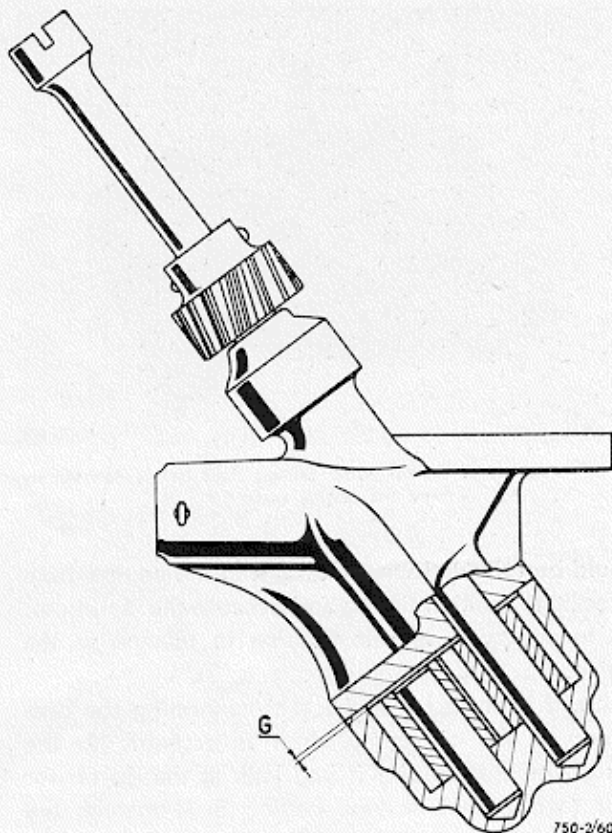

Fig. 60 - Axial clearance (G) between gears and oil pump body
- 1) that the axial play of the gear-wheels is not much greater than the original figure of 0.2 to 0.5 mm. (fig. 60);